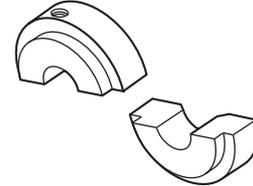

Fig. 46
2) Liners for flanging (Fig. 46)